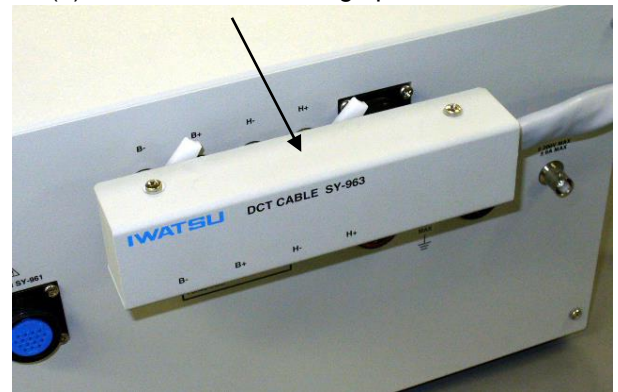

Fig. 4-9 Fitting SY-963
- (6) Mount the measurement connector of DCT cable SY-963 on the rear side of DC Bias Tester SY-960. Fit four BNC and a multi pin connector. (See Fig. 4-9)